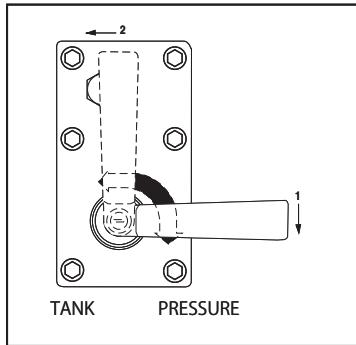

*Figure 6*
- c. Lower the throttle down to the detent position for maximum performance. The throttle may be lowered below the detent for idle. (See Figure 6.)